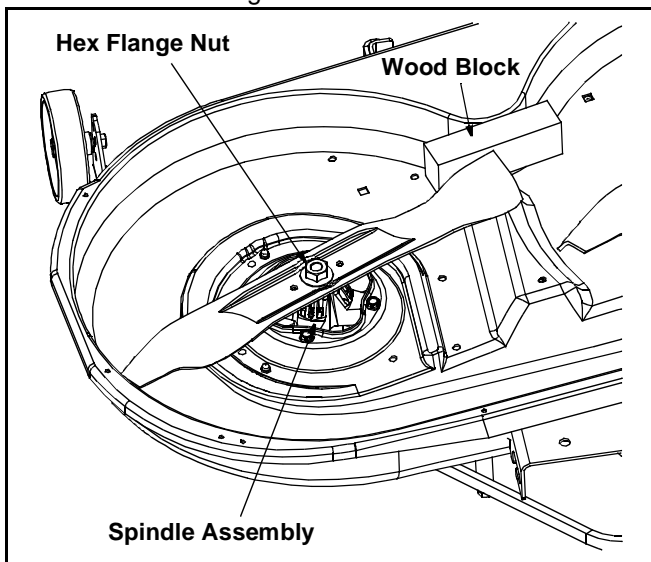

Figure 26
- Place a block of wood between the center deck housing baffle and the cutting blade to act as a stabilizer. See Figure 26.
- Use a 1-1/8" wrench to remove the hex flange nut that secures the blade to the spindle assembly. See Figure 26.